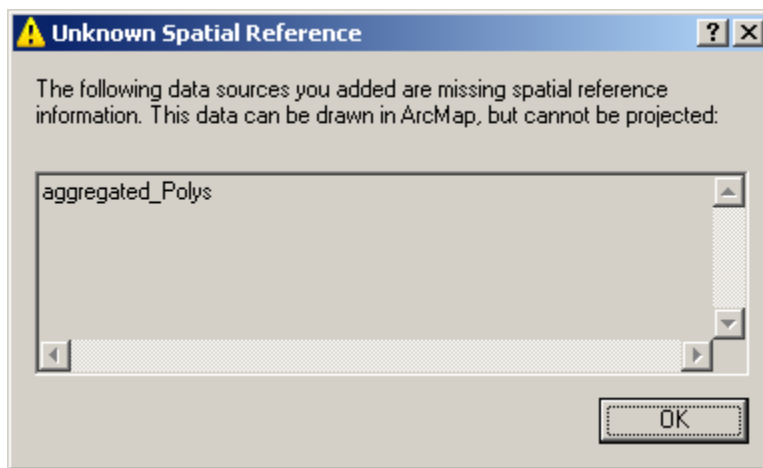

Figure 5-13—Unknown Spatial Reference window from ArcMap.
- LTD does not include a visual display of the output data. Open ArcMap, and add the aggregated_Polys.shp shapefile to the map. The spatial reference is undefined for the shapefile (fig. 5-13).